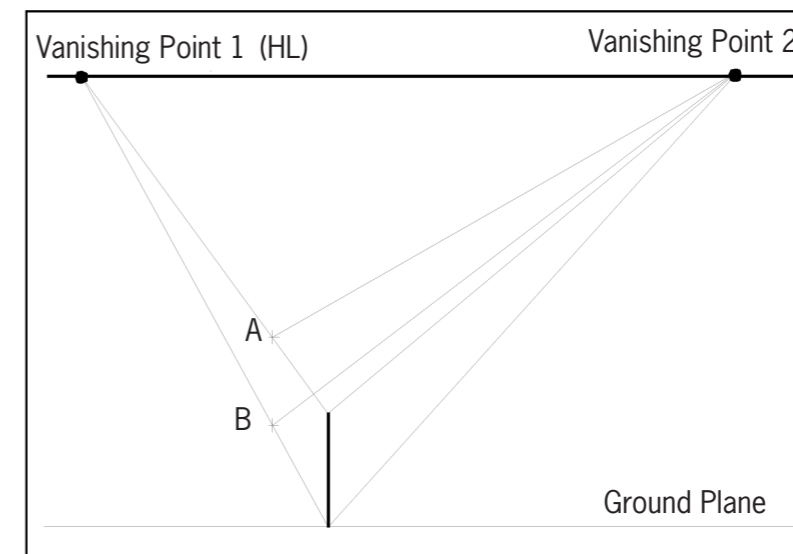

Figure 5
2. (a) Once you have done this, you have to mark off another edge of the block on the construction lines as indicated in Figure 5 at A and B.